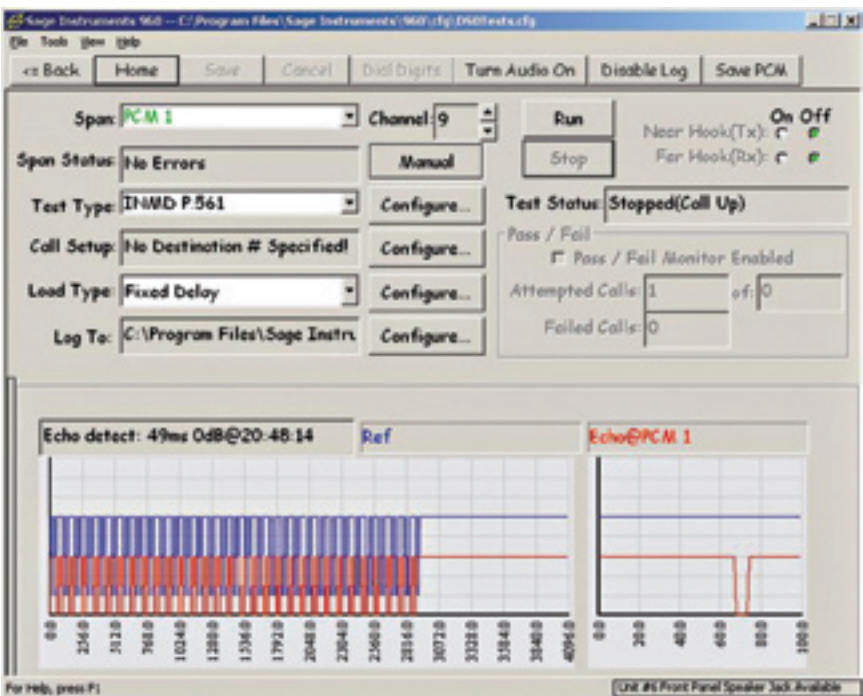

Figure 91
INMD P.561 (PCM only) utilizes four (4) screens for configuration of the test parameters (see figures 91 through 94).
Figure 91 shows the main test screen with the “INMD” test selected and saved. When clicked the three (3) “Configure” buttons down the center of the screen display the test set-up windows at right.
In Figure 91, there is an echo detected of 49ms delay and 0 dB level at 20:48:14 In the left plot, the blue line represents the reference signal on PCM2 while the red line represents the measured echo signal on PCM1. The signal is plotted for the last 4096 ms. The right plot shows the last 100 ms of signal activity for both monitored lines.